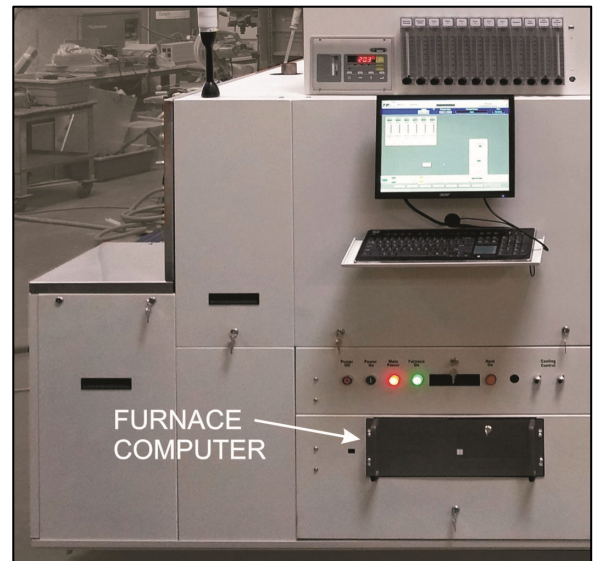
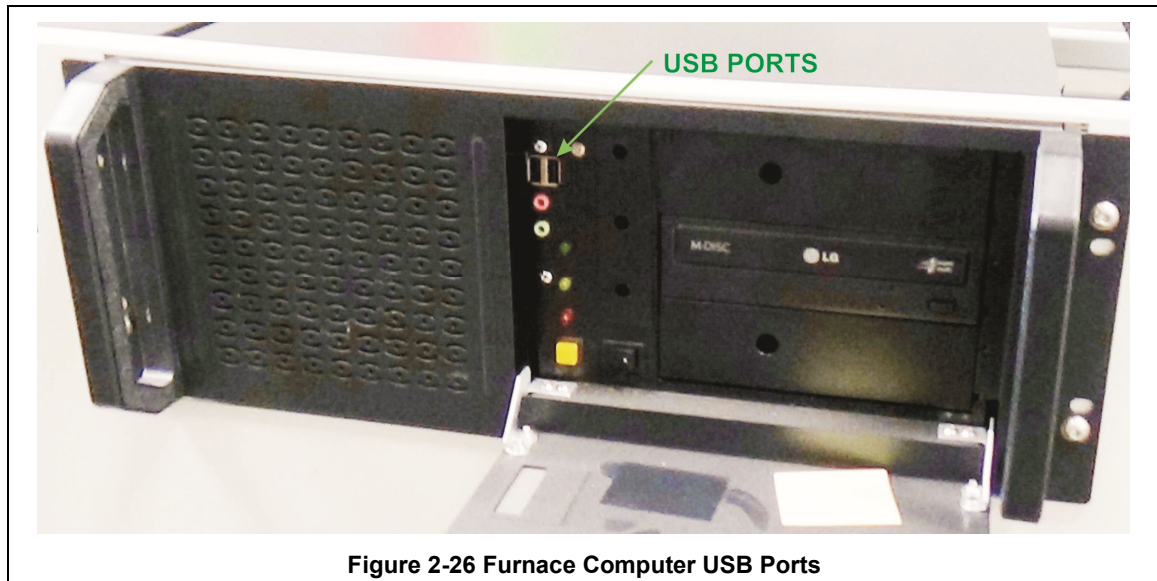

Figure 2-25 Furnace Computer
Figure 2-26 Furnace Computer USB Ports
Owner may connect the furnace to its network or the internet using either the RJ45 port located on the furnace Lower Entrance Panel with a Cat5e or Cat6 cable (see Figure 2-26)
The furnace is equipped with two (2) USB 2.0 ports on the front of the furnace computer (Figure 2-25 and Figure 2-26). These USB ports can be used for connecting a portable drive or to connect a profiler.